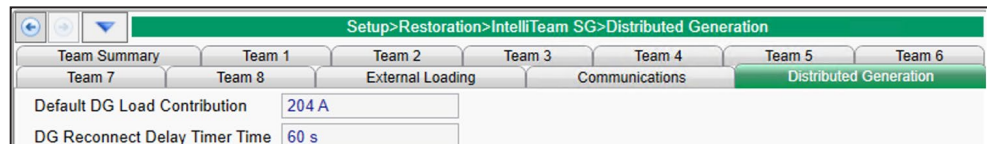

Figure 6. The Setup>Restoration>IntelliTeam SG>Distributed Generation screen.
STEP 5. S&C devices teamed with distributed generation have an option to automatically reconnect the distributed generation to the grid after the circuit returns to its **Normal** state. This option is enabled using IntelliTeam Designer software. Users can verify the setting was applied correctly by going to the *Setup>Restoration>IntelliTeam SG>Distributed Generation* screen. When applied correctly, the **DG Reconnect Delay Time Timer** setting is not set to “Disabled.” See Figure 6.